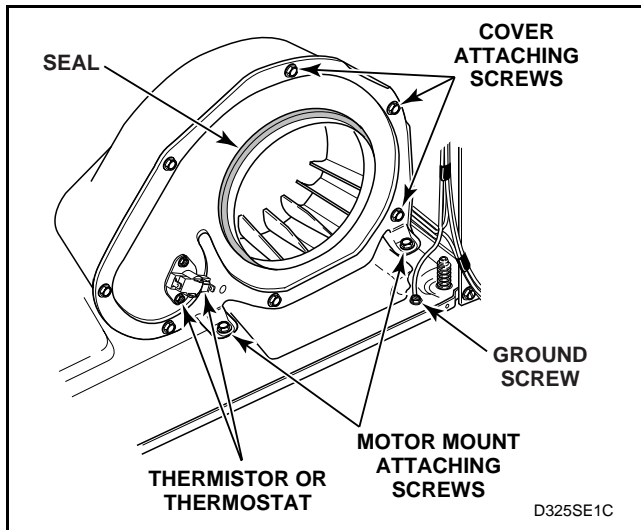

Figure 26
IMPORTANT: When reassembling, be sure seal on exhaust fan cover makes airtight seal on flange of duct. See *Figure 26*. If the seal is installed improperly, the airflow through the exhaust system
- Remove two screws holding motor mounting bracket to dryer base. See *Figure 26*.
- (1.) Remove screws holding cover to housing. See Figure 26.